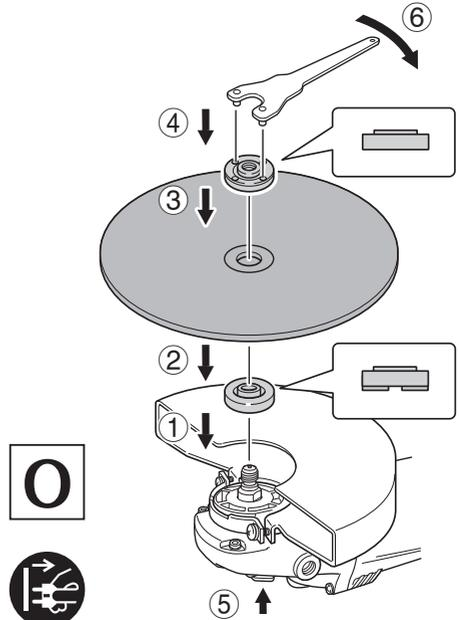

Fig. 4
- When using a abrasive cutting wheel, be sure to remove the standard accessory wheel guard and attach the wheel guard with side guard (sold separately) (Fig. 4 on page 25);
4. Assembling cutting wheel (Fig. 4)